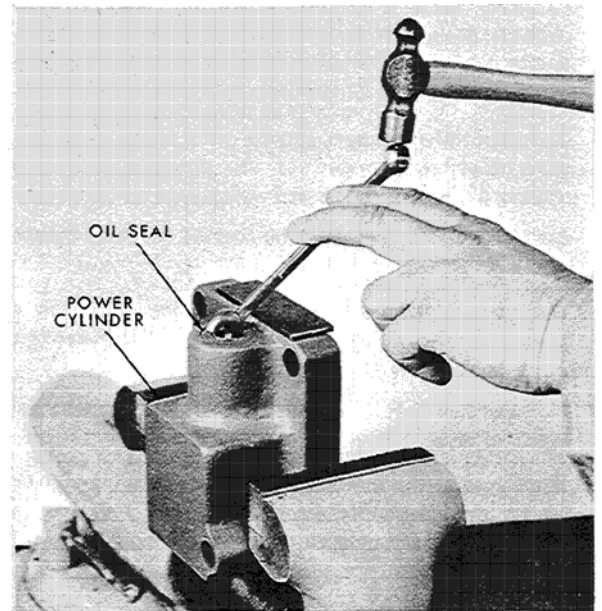

Figure 3-3
- c. Grip power cylinder (10) in a vise to remove oil seals as shown in Figure 3-3.